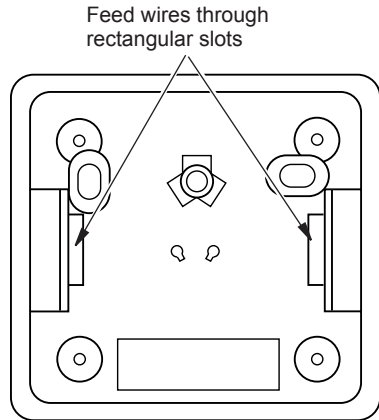

Figure 34 - Back View of Thermostat Base
6. Feed the electrical wires through the rectangular slots (from the back) on each side of the base (see Figure 34).